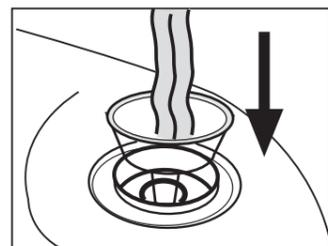

Fig. 2
- install the funnel (n)in tank's hole and full it with water Fig. 2
- screw the water full cap (3) on the tank.